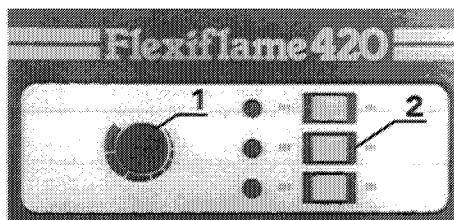

Fig. 14
Set the boiler thermostat on each boiler (1, fig. 14) to a minimum, and check that all module isolating switches (2, fig. 14) are off.
Turn up the boiler thermostat (1, fig. 14) and switch on the individual modules at the isolating switches (2, fig. 14). The modules should now fire.
- a) Turn off the module to be checked at the isolating switch (2, fig. 14).
- e) Turn on the module being checked at the isolating switch (2, fig. 14).